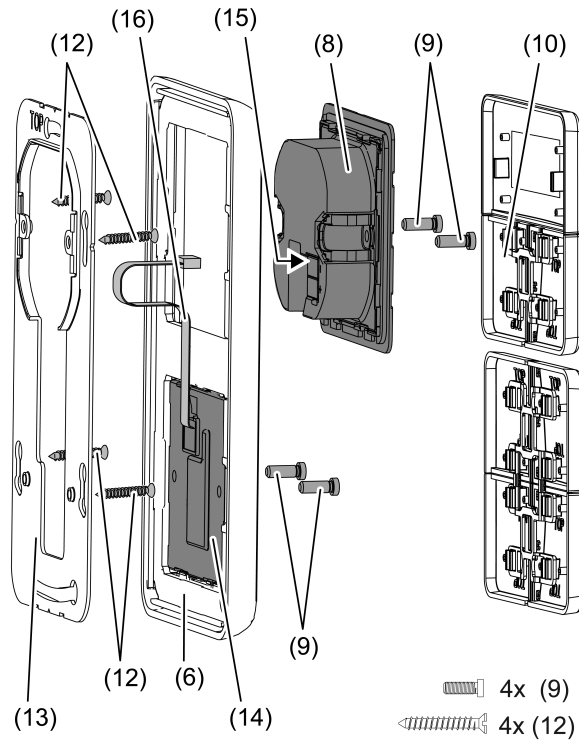

Figure 3: Mounting with push-button extension module
When the push-button extension module is used (Figure 3): Preferably mounted vertically. Use large supporting frame (13). When mounting on only one appliance box, countersink the lower screws into the wall, e.g. with a $\varnothing 6 \times 10$ mm hole. Use supporting frame as template.
- Mount supporting frame (5) or (13) in the correct position onto an appliance box. Note marking **TOP=**; marking **A** or **B** in front. Use only the enclosed box screws (12).
- Push frame (6) onto supporting frame.
- Mount push-button extension module (14) preferably below. Route connecting cable (16) between supporting frame and intermediate web.
- Push-button extension module: Insert connecting cable (16) in the correct orientation into slot (15) in the controller module. Do not crimp the connecting cable (Figure 3).
- Connect controller module (8) to the KNX using KNX device connection terminal (11) and push onto the supporting frame.
- Fasten controller module (8) and push-button extension module (12) to supporting frame using the enclosed plastic screws (9). Tighten the plastic screws only lightly.
- Before mounting the control surfaces (10), load the physical address into the device (see chapter 5.2. commissioning).